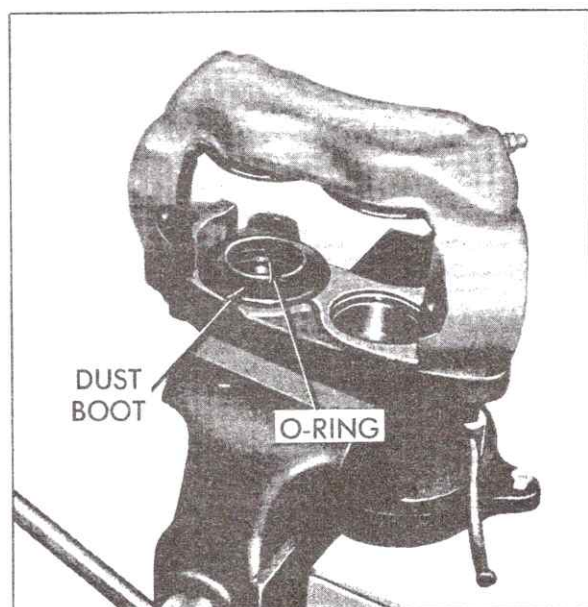

Fig. 5-35 Installing Dust Boot
3. Lubricate piston seal with special lubricant and install seal in second groove in housing bore, Fig. 5-35.
housing bore, making certain that dust boot is properly seated in bore groove, Fig. 5-35.